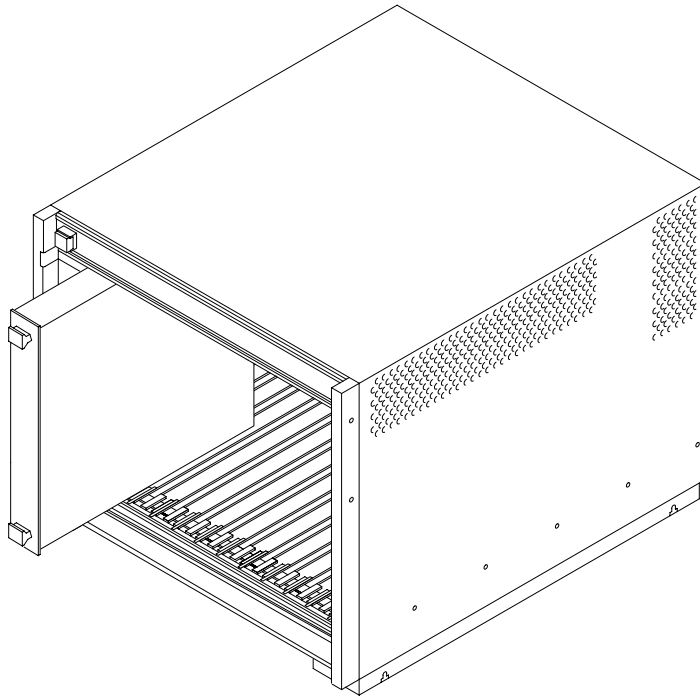

Figure 1–5: Module Installation
4. Insert the module into one of the instrument slots of the mainframe (see Figure 1–5).